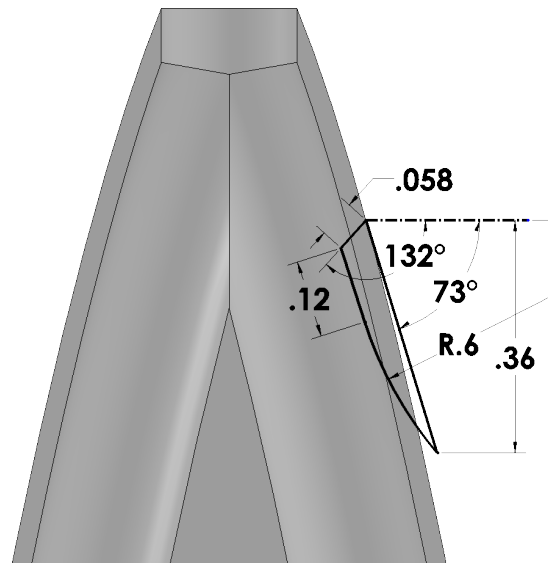

Fig. 32
Step 9. Click **Smart Dimension**  (S) on the Sketch toolbar.
Step 10. Add dimensions, **Fig. 32**.